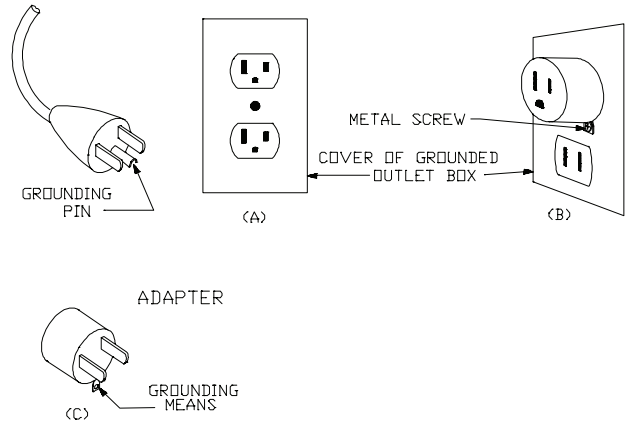

Figure 1
10. Some models are provided with a three blade grounded plug (see Figure 1). If provided with a grounded plug, always connect to a properly grounded outlet only.
1. Heaters are provided with flexible cord with a grounded 2 blade plug (as shown in Figure 1) and built-in ON/OFF switch. This heater is for use at 120 V AC only.
2. An adapter as shown at C in Figure 1 is available for connecting three-blade grounding-type plugs to two-slot receptacles. The green grounding plug extending from the adapter must be connected to a permanent ground such as a properly grounded outlet box. The adapter should not be used if a three-slot grounded receptacle is available.